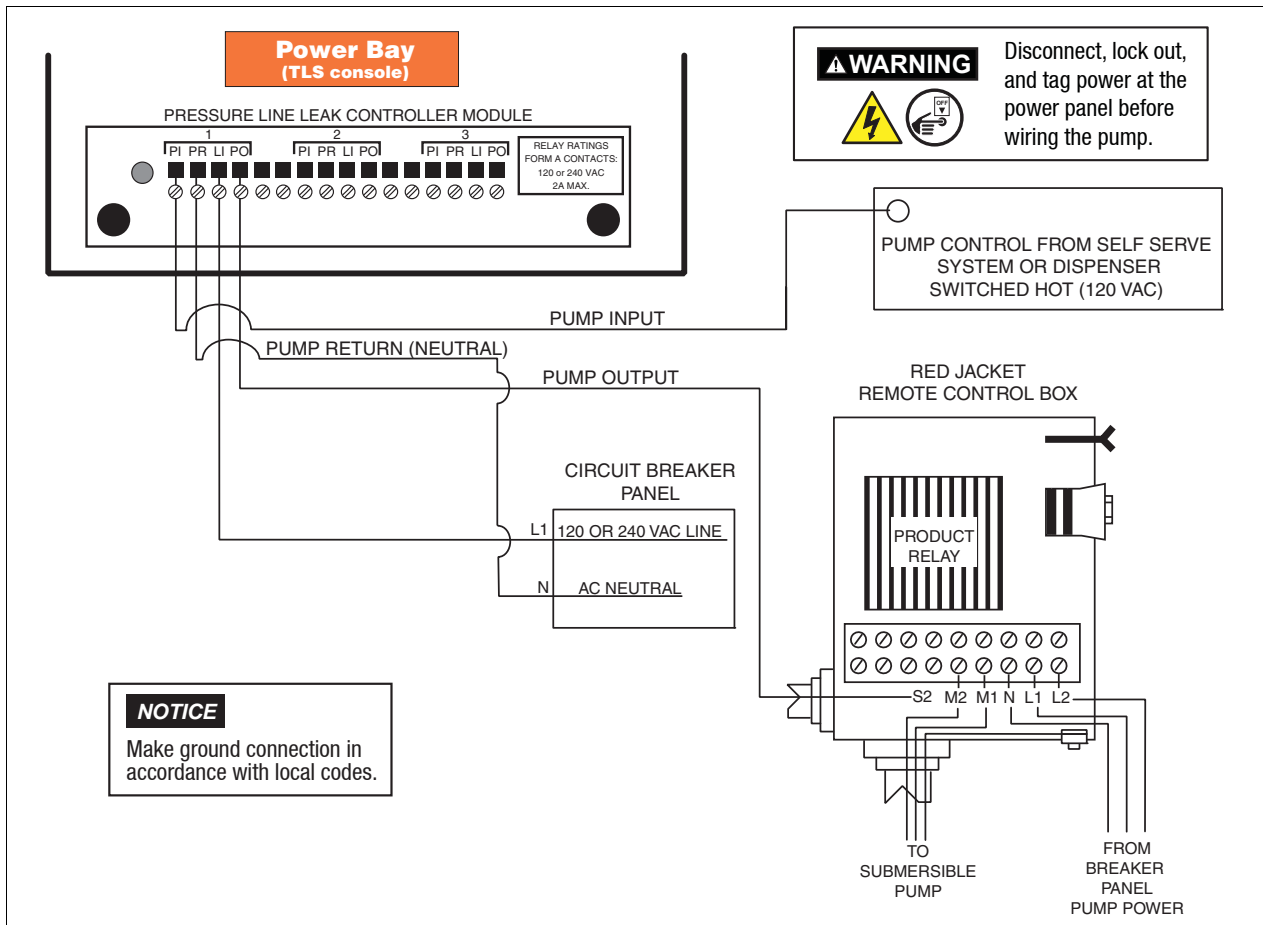
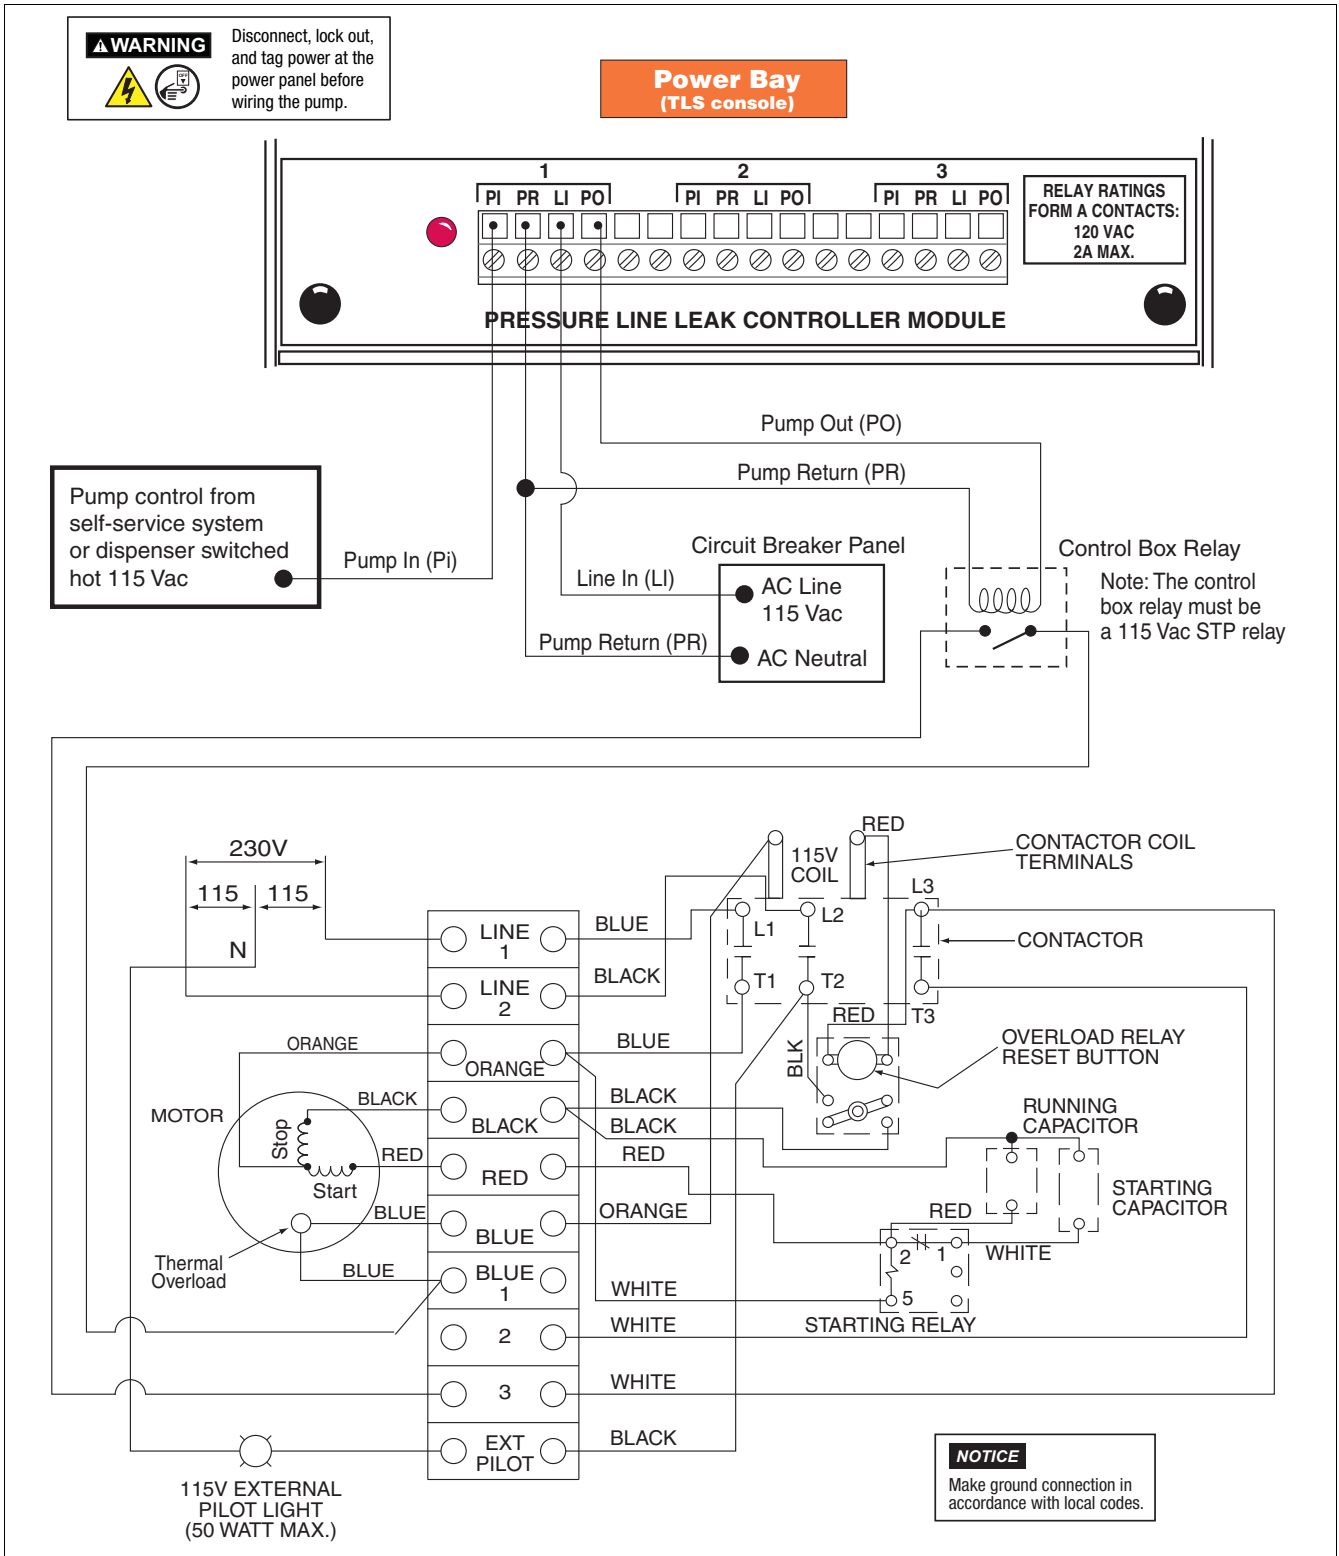
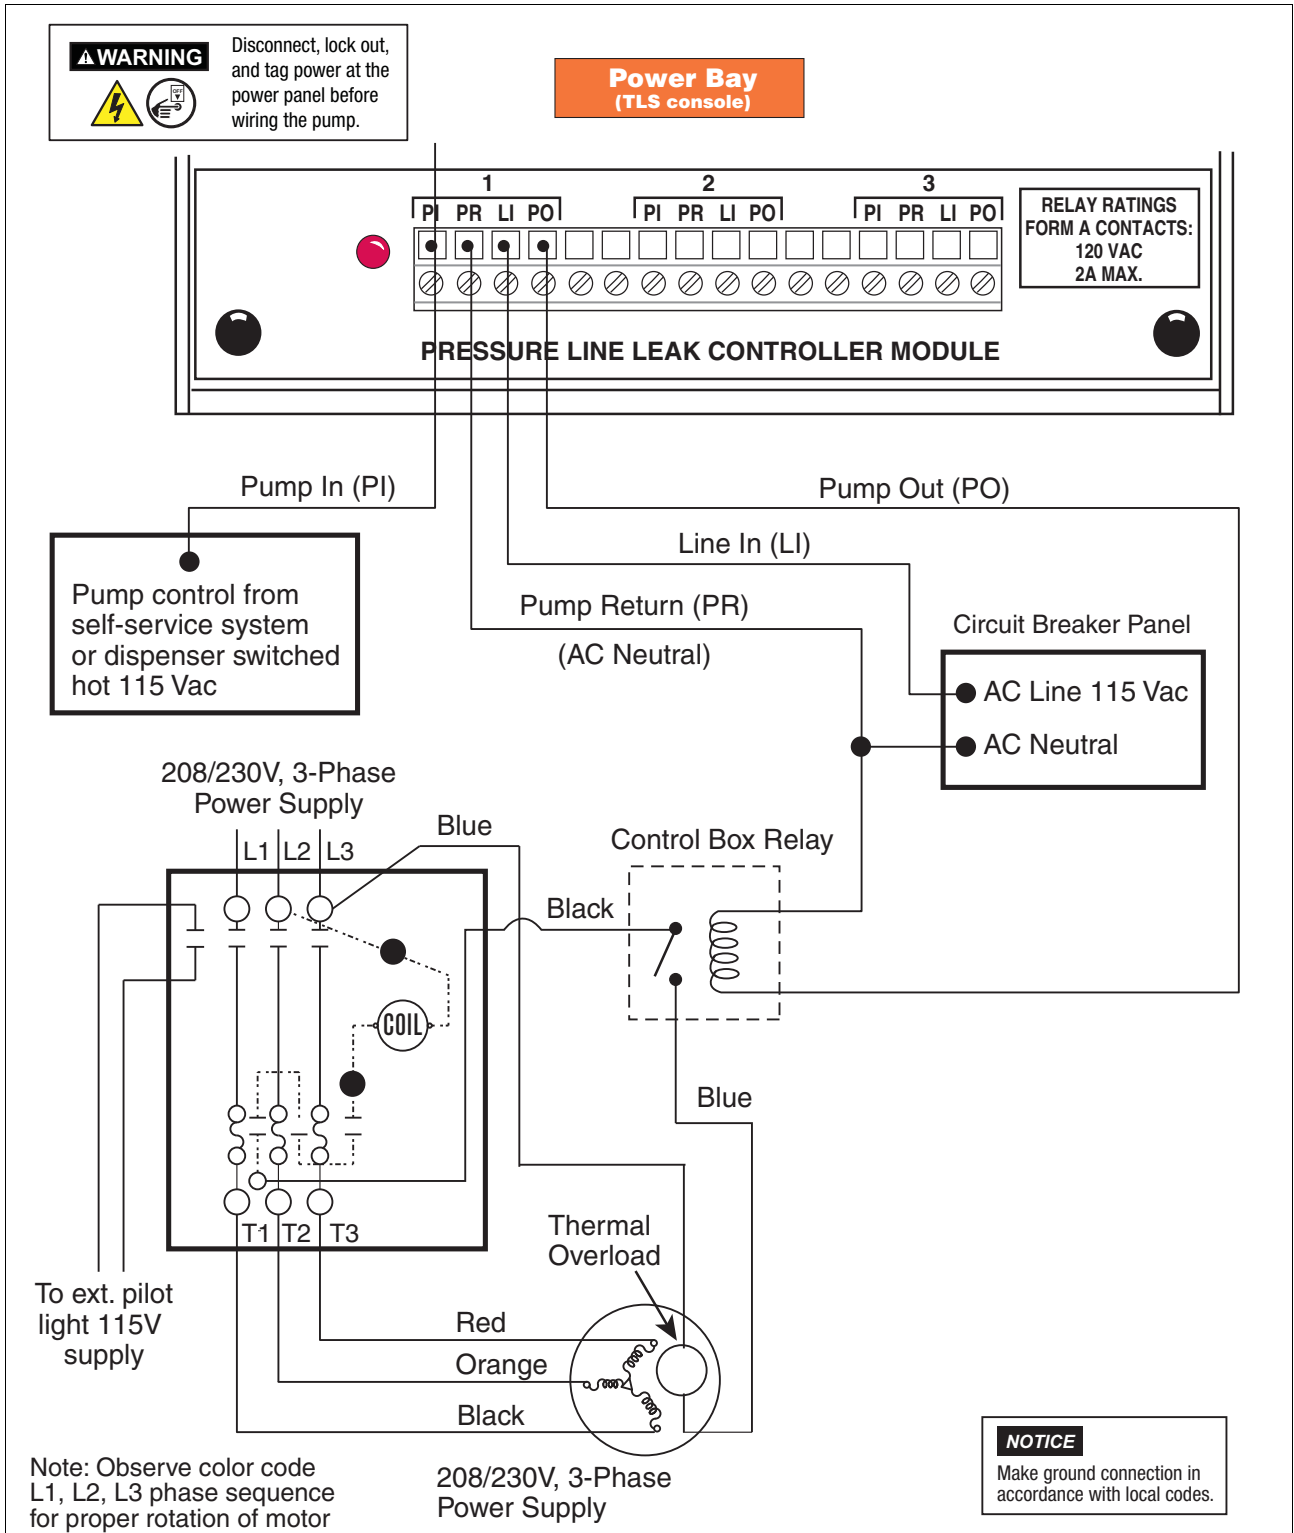
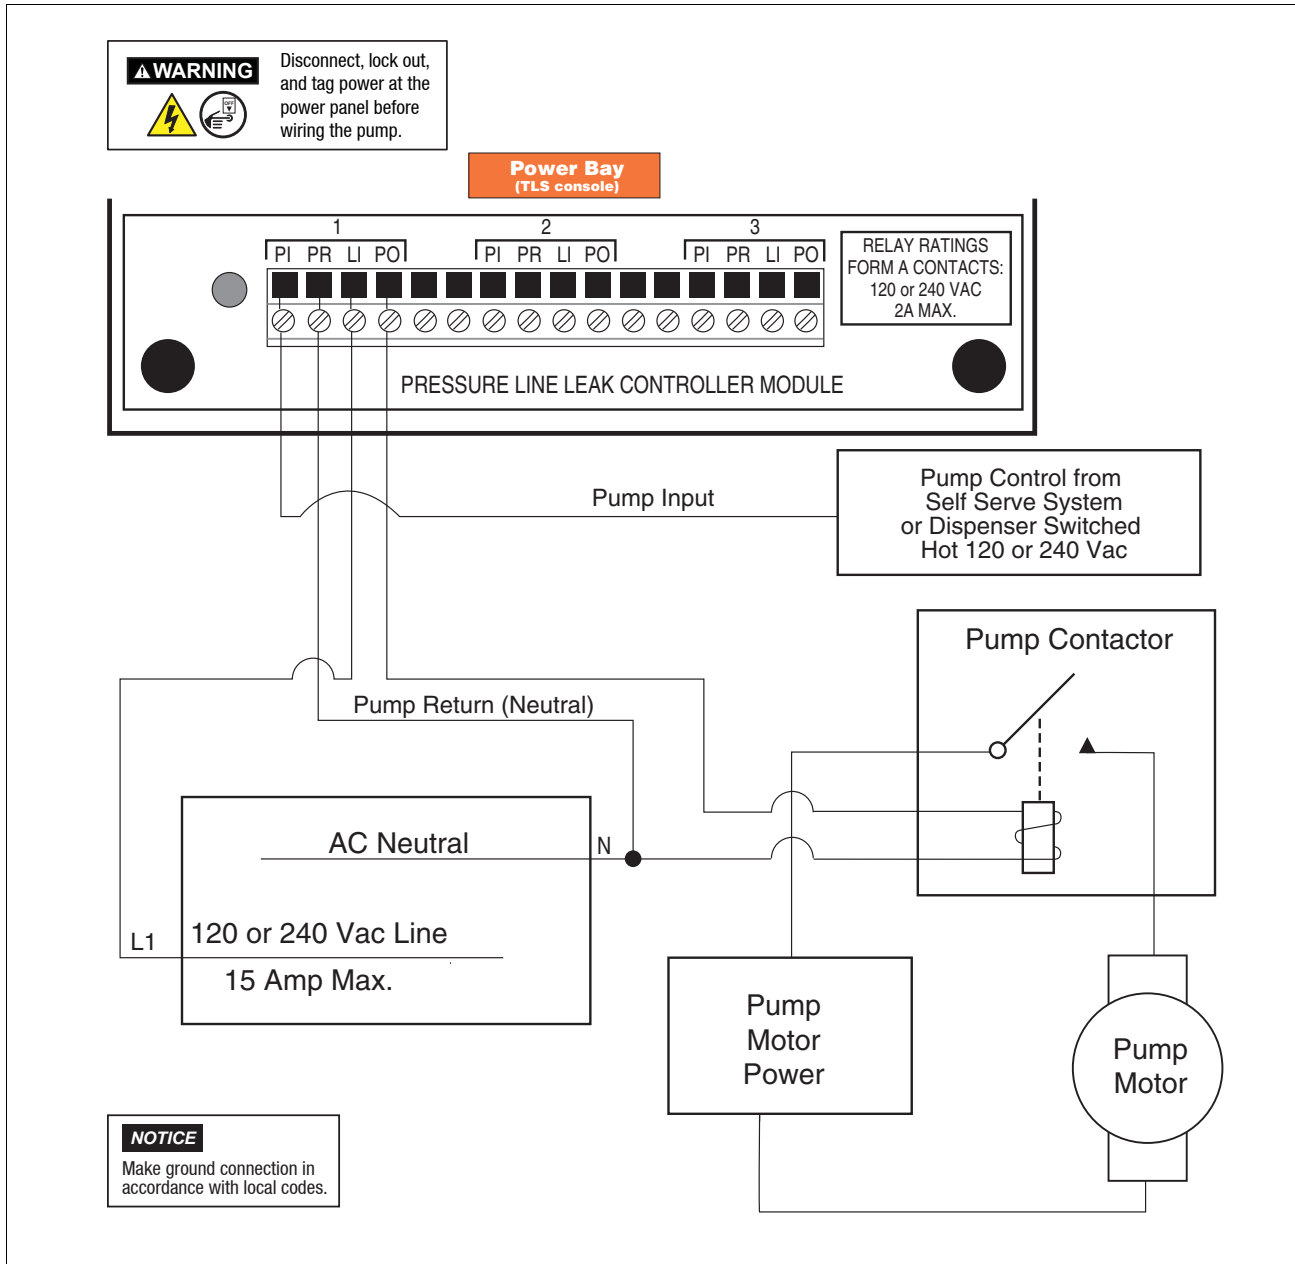

Figure 18. PLLD System And Pump Control Diagram For Red Jacket Relay Control Box
Figure 19. Red Jacket Maxxum Big-Flo Single-phase Wiring
Figure 20. Red Jacket Maxxum Big-Flo 3-Phase Wiring
Figure 21. PLLD System And Pump Control Diagram For Non-Red Jacket Relay Control Box
- Red Jacket (ref. Figure 18, Figure 19, and Figure 20)
- Non-Red Jacket (ref. Figure 21)
4. Connect the PR (PUMP RETURN/AC NEUTRAL) wire from the Controller module to the AC neutral line (ref. Figure 18, Figure 22). For other systems, PR is connected to the neutral side of the pump contactor relay and to the AC neutral line (ref. Figure 21).